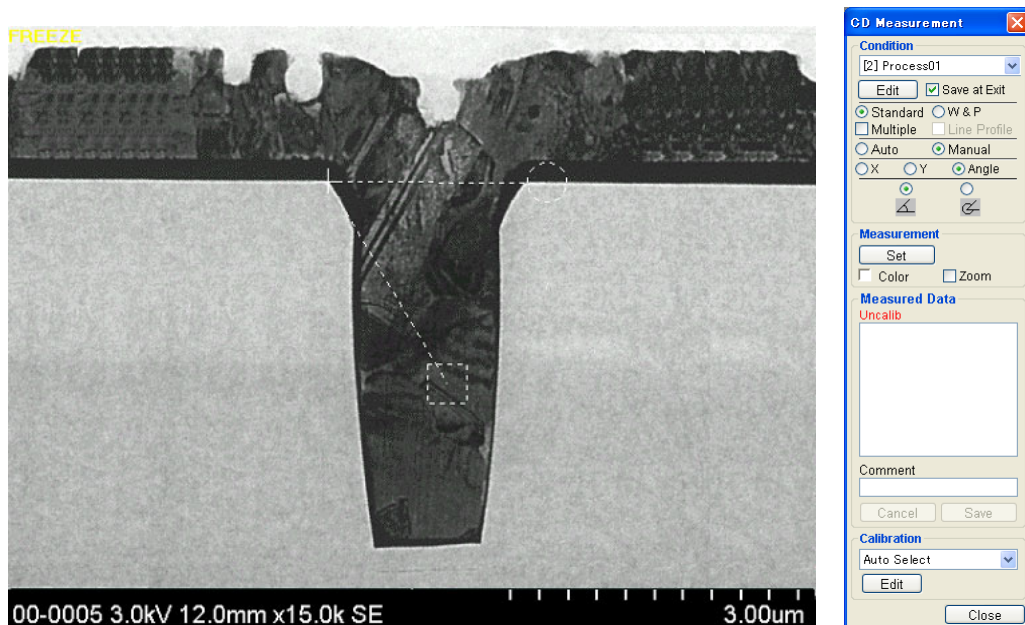

Fig. 6.4-21 Angle Measurement Cursor
- (e) By setting the measuring direction to **Angle** and clicking the **Set** button of CD Measurement window, a measurement cursor that permits specifying the angle will appear as in Fig. 6.4-21.